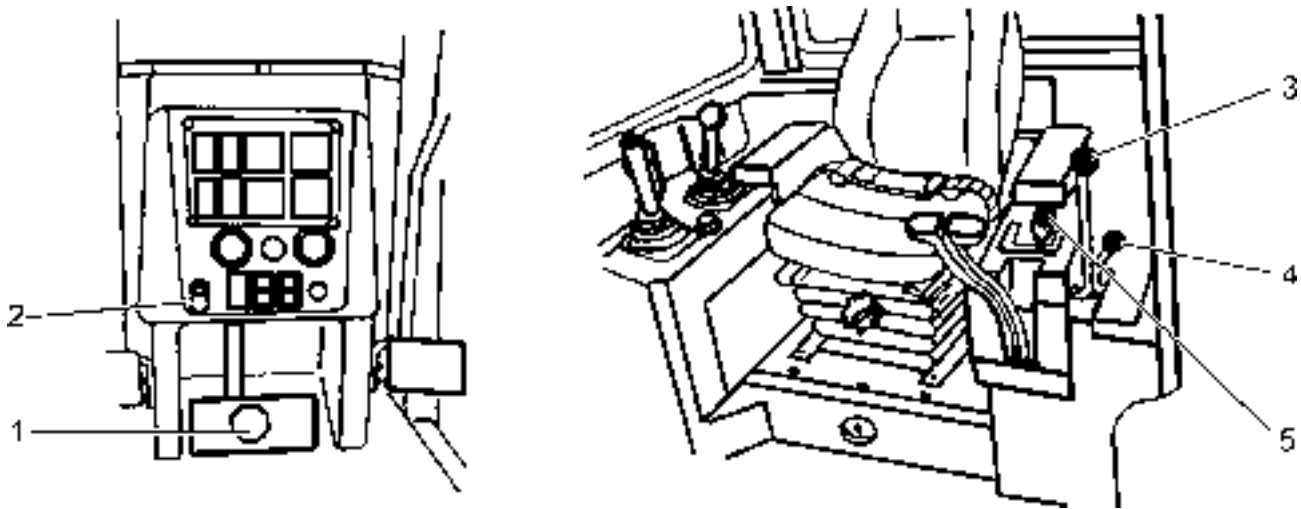

Fig. 4.16. Driving the Machine
4.9. DRIVING THE MACHINE (Fig. 4.16)